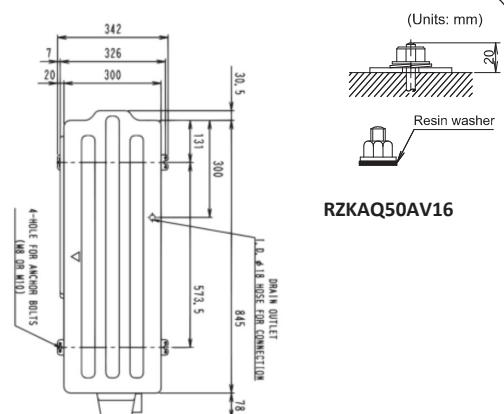

Fig. 1
- In accordance with the foundation drawing in Fig. 1, fix the unit securely by means of the foundation bolts. (Prepare 4 sets of M12 foundation bolts, nuts and washers each which are available on the market.)
- Fix the outdoor unit to the foundation bolts using nuts with resin washers. (See the left-hand of Fig. 1 drawing )